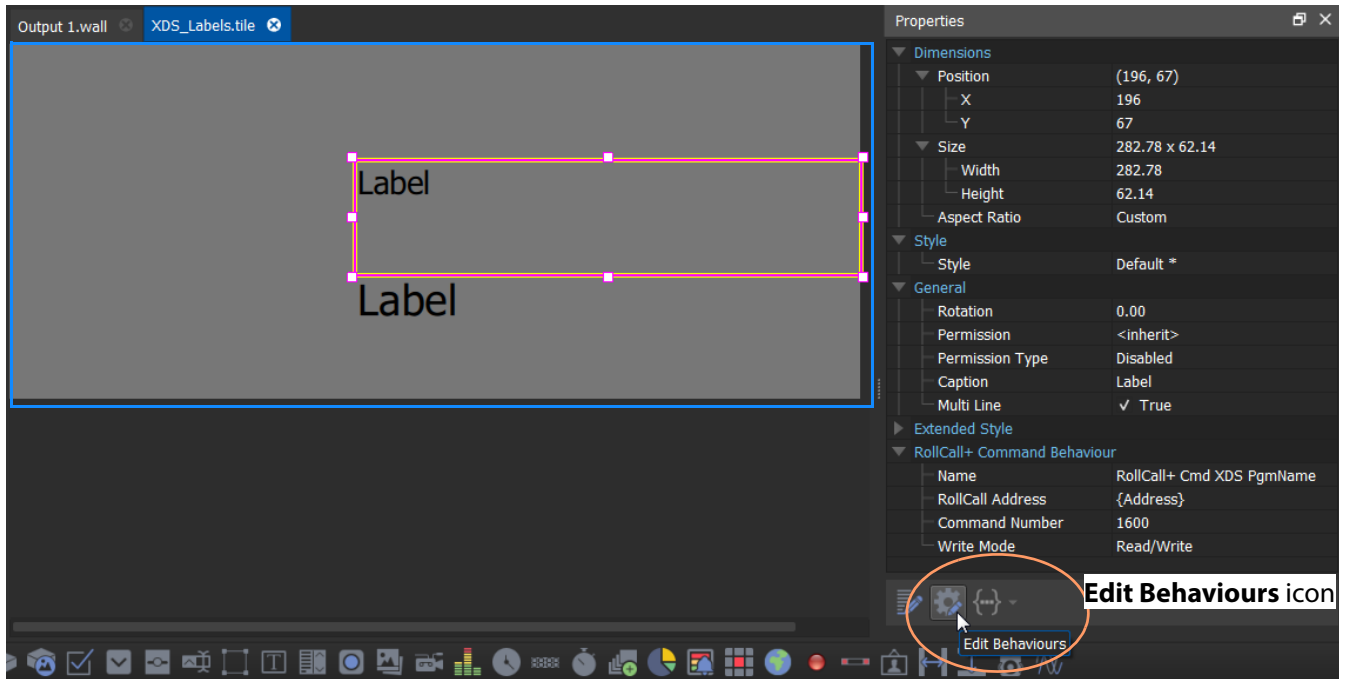

Fig. 6-1: 'XDS Labels' on New Tile
- 4 Select one **Label** and click the **Edit Behaviours** icon (see Figure 6-1) to open the 'Behaviours and Bindings' graphical editor.